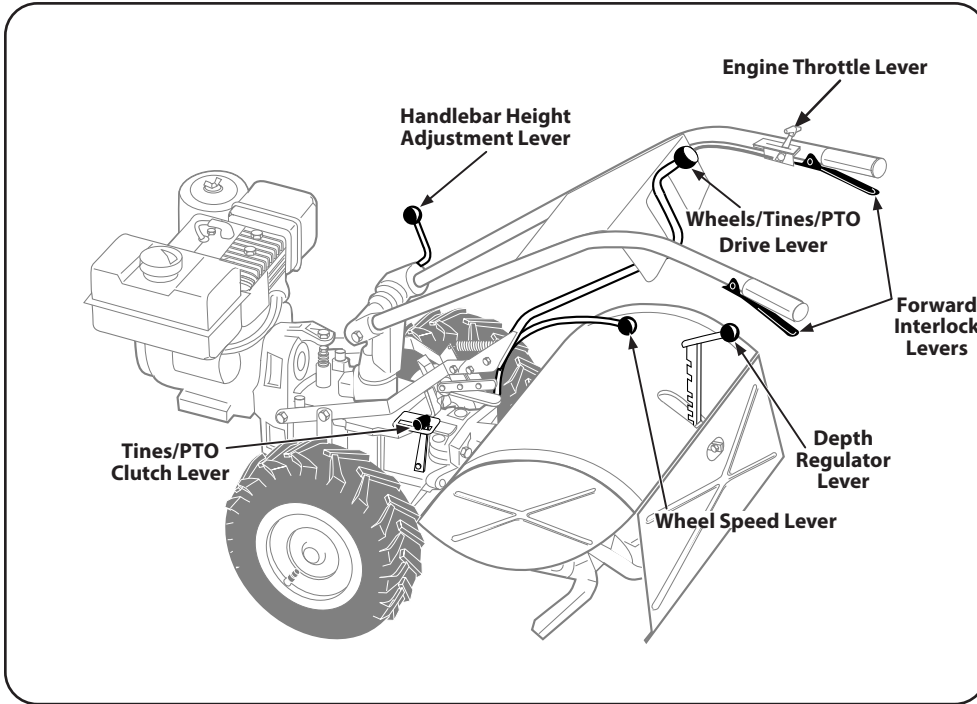

Figure 3-1
2. Place the handlebar ends on either side of the base, with the wire harness toward the rear of the base. See Figure 3-1.
3. Install the height adjustment lever through the right-side clamp, handlebar end, ratchet and base; then out through the left-side ratchet, handlebar end and clamp. See Figure 3-1. Secure with the nut, but do not fully tighten.
1. Loosen the bolt on the handlebar base and swing the handlebars out to the right side. See Figure 3-1 on page 5.